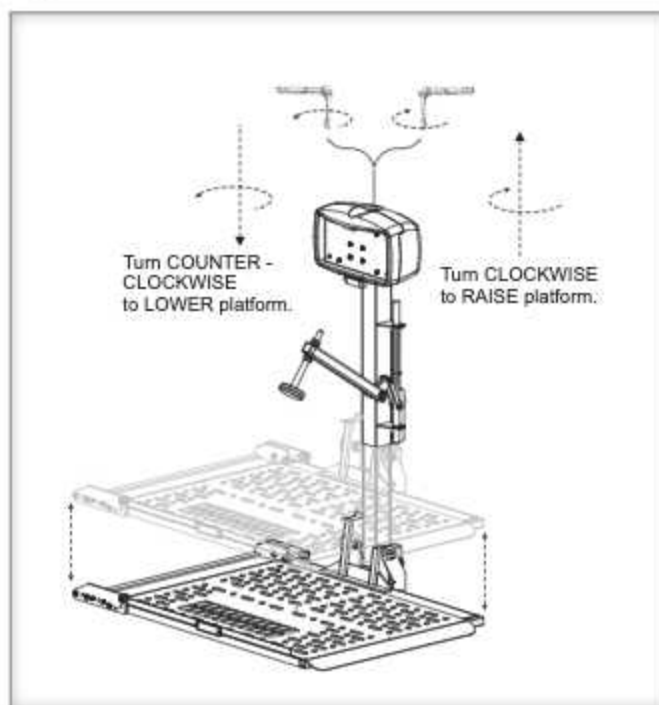

Figure 10-4
4. Turn **COUNTER-CLOCKWISE** to **LOWER** the platform. [Figure 10-4]
5. Turn **CLOCKWISE** to **RAISE** the platform. [Figure 10-4]